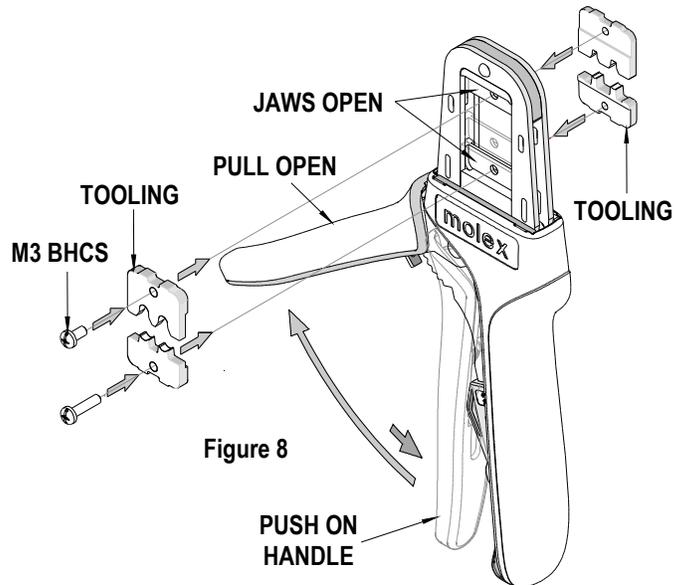

Figure 8
3. Flip the upper tooling to the opposite side and replace the M3 BHCS. Make sure the small markings on the front and back of the hand tool frame match up and are on the outside of the hand tool frame. See Figure 8 and 9.